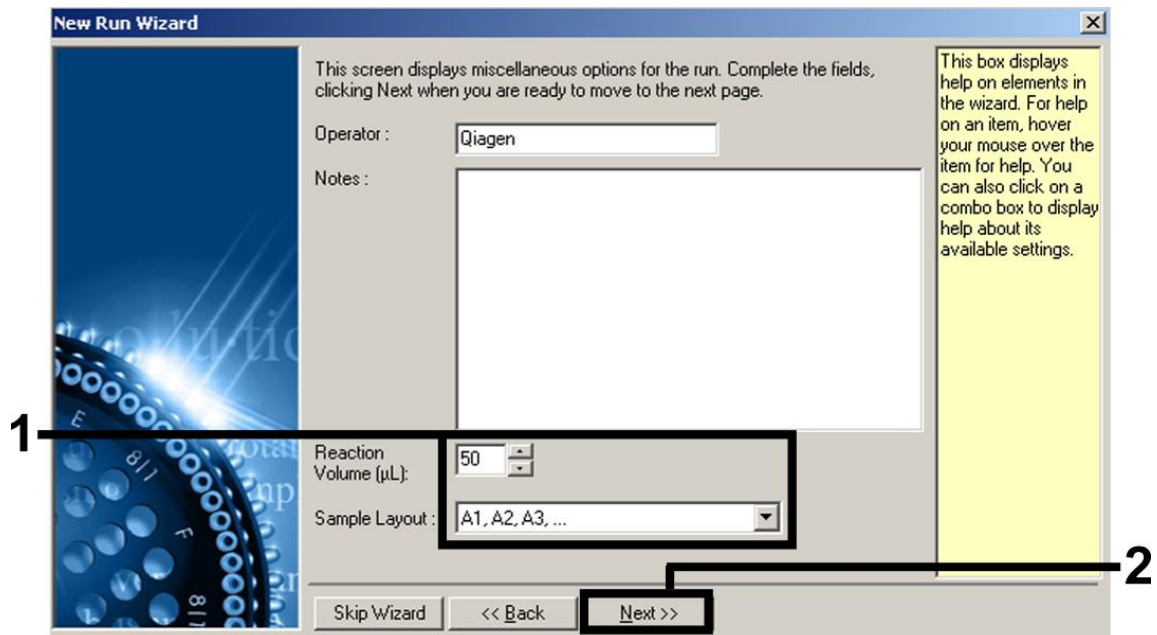

Figure 6. Setting the general assay parameters.
7. Select 50 for the PCR reaction volume and click “Next” (Figure 6).